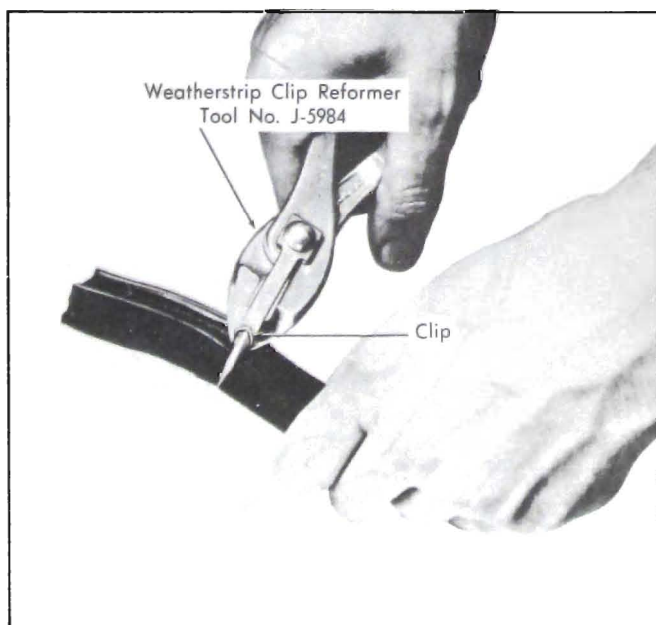

Figure 13-84 ---Weatherstrip Clip Reforming Tool
2. Check weatherstrip clips for proper contour and reform clips, where required, using clip reforming tool J-5984. See Figure 13-84.